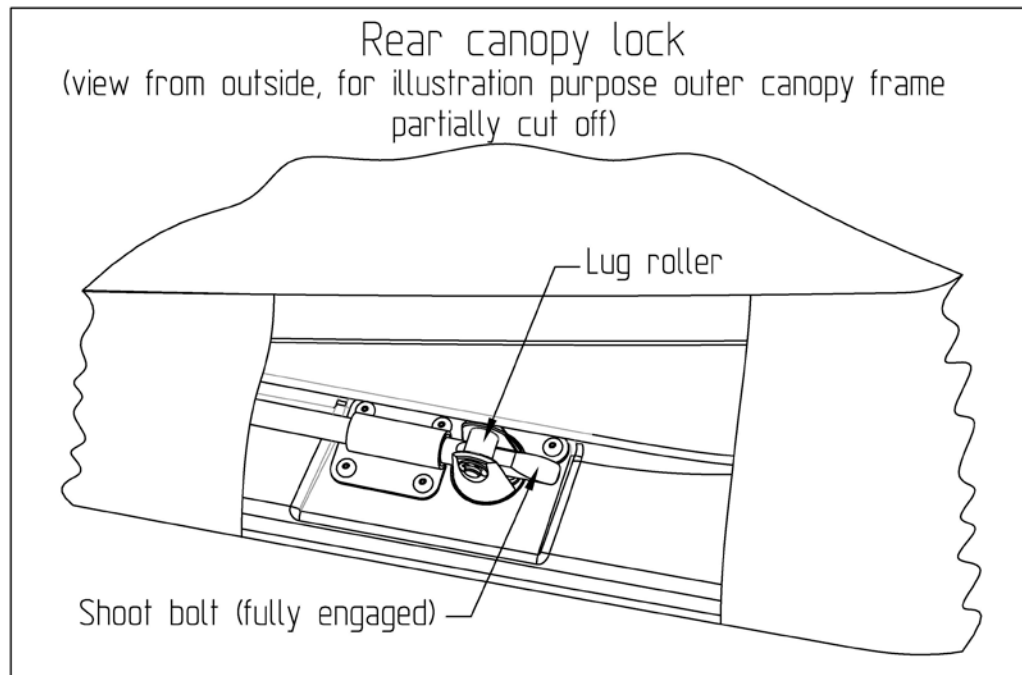

Figure 2 Canopy – locking mechanism
19. Check canopy locking mechanism: Shut the canopy. A released rear canopy handle will travel to a partially locked position where the shoot bolt lead wedge section is only engaged with the lug roller. For a fully locked position the rear canopy handle has to be pulled fully rearward to get the audible / acoustic and tactile confirmation that the shoot bolts are fully engaged with the lug roller (indicates that the lug roller is located on the top flat position of the shoot bolt; see Figure 2).